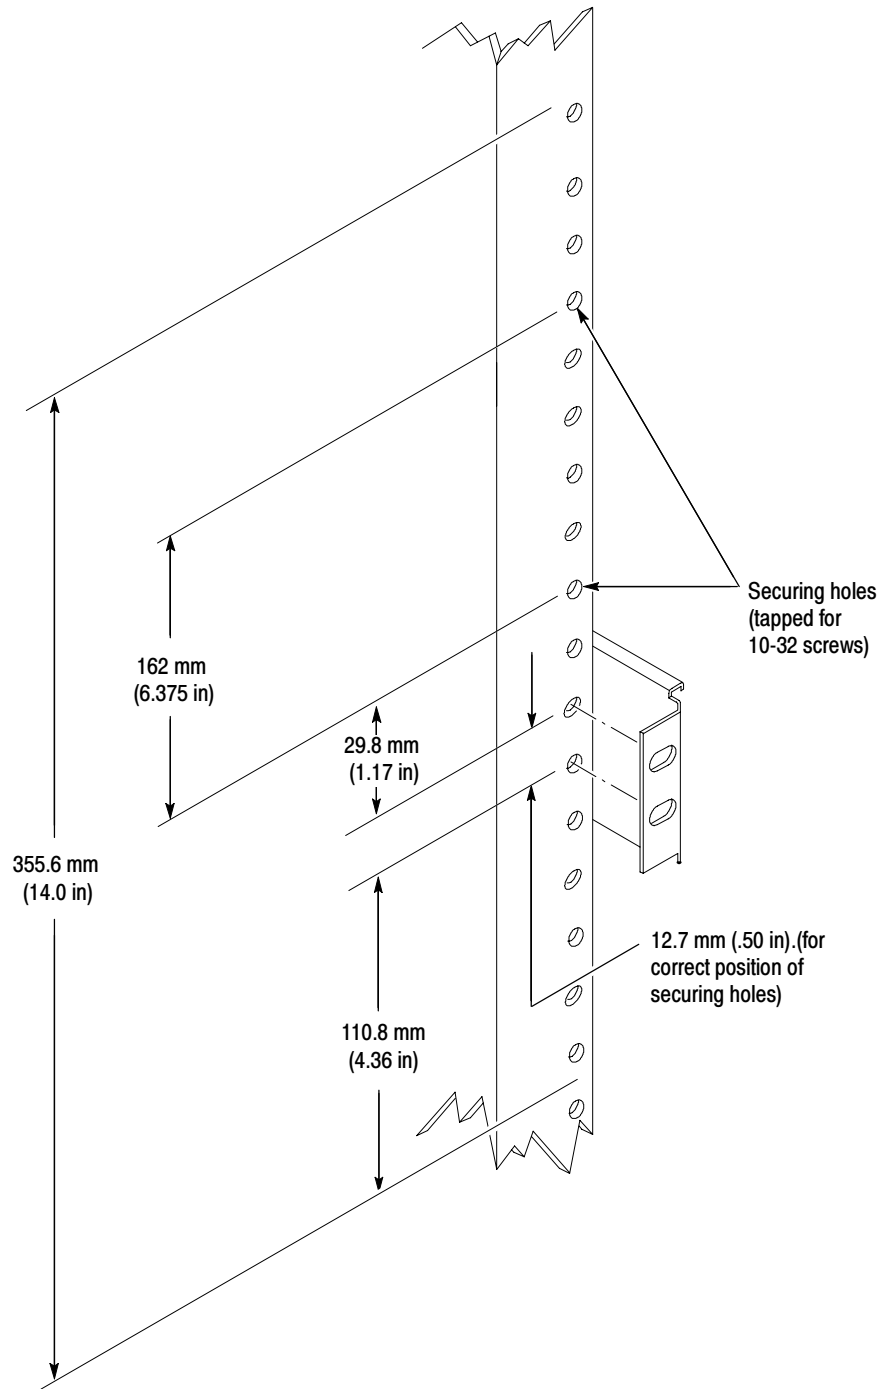

Figure 8: Vertical clearances for rack installation (left-front rail shown)
- a. Select the mounting position in rack: Select two 0.5 inch spaced holes in the front rail. Verify that the 4.36 inch and 14 inch clearances exist relative to those mounting holes. See Figure 8, page 14.